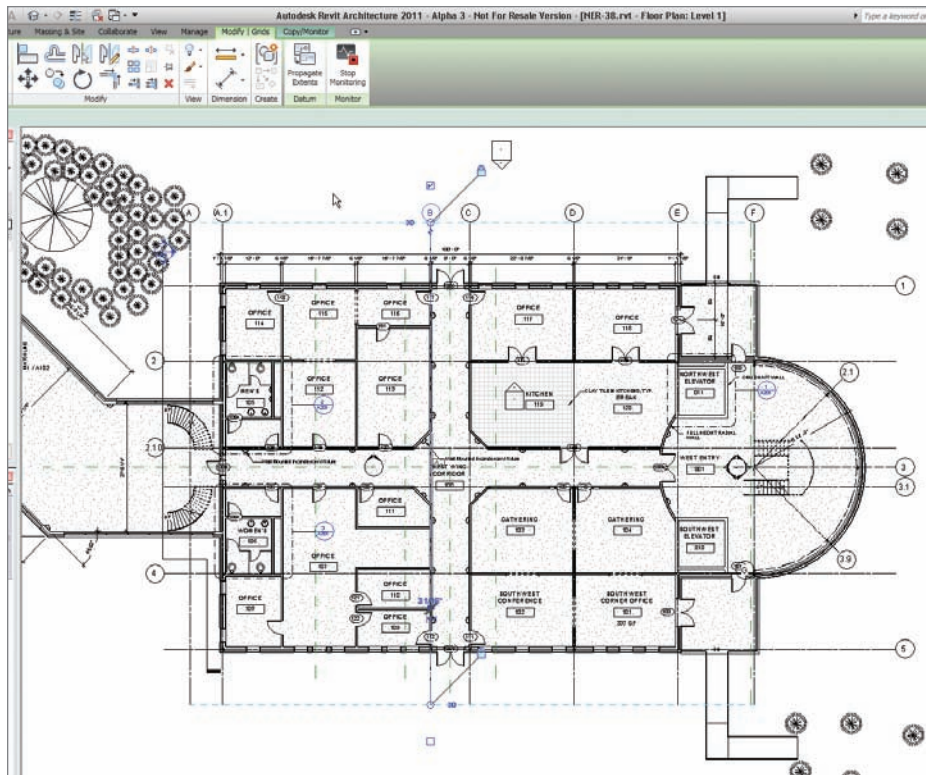

FIGURE 20.8 The copied grids!
8. You will get a warning saying that “The following types already exist but are different.” Just click OK. Your grids should look like Figure 20.8.